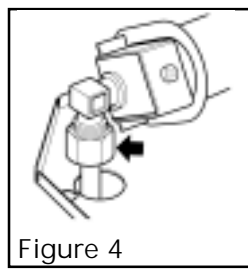

Figure 4
3. Disconnect the burner elbow injector from the burner pipe. See figure 4.